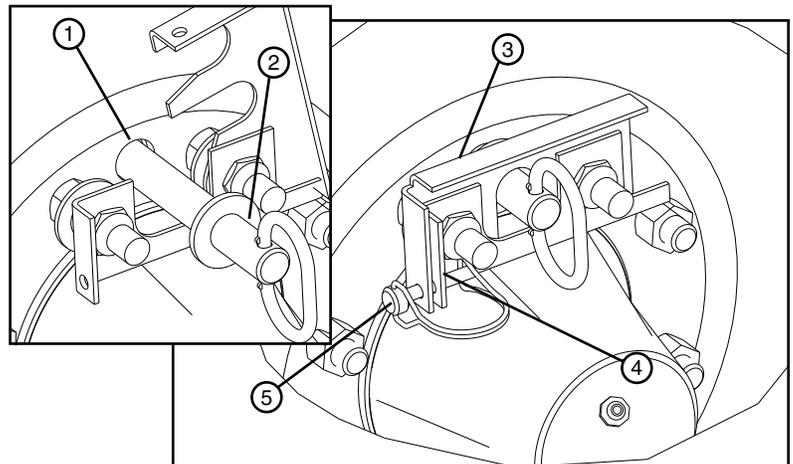

Figure 87-2 1. Hub Torque Pin Receiver 4. Retainer Clip
- Rotate the tire until the hole in the hub torque pin receiver is aligned with the hole in the axle torque arm. Install the torque pin and close the retainer plate. Secure the retainer plate to the retainer clip with the lynch pin. See Figure 87-2.